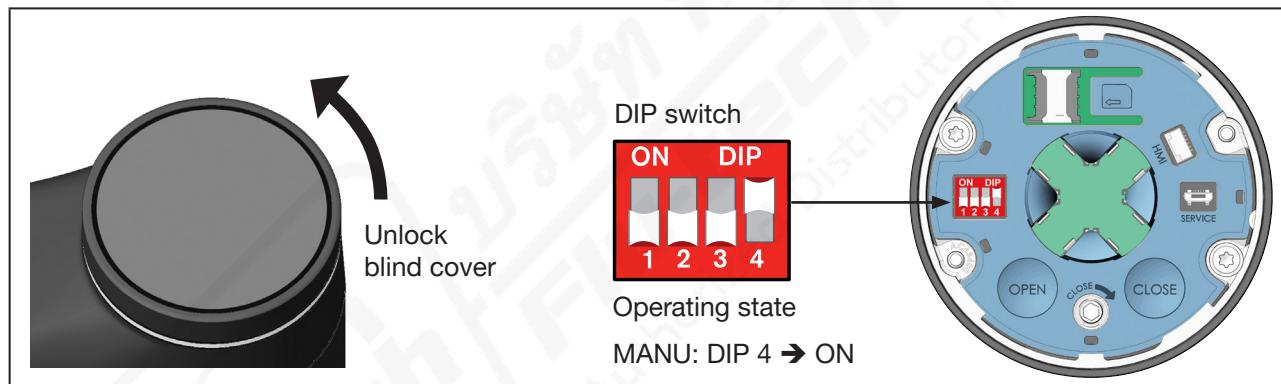

Fig. 40: Setting MANUAL operating state
- Set DIP switch 4 to ON. The device is in MANUAL operating state (see "Fig. 40").